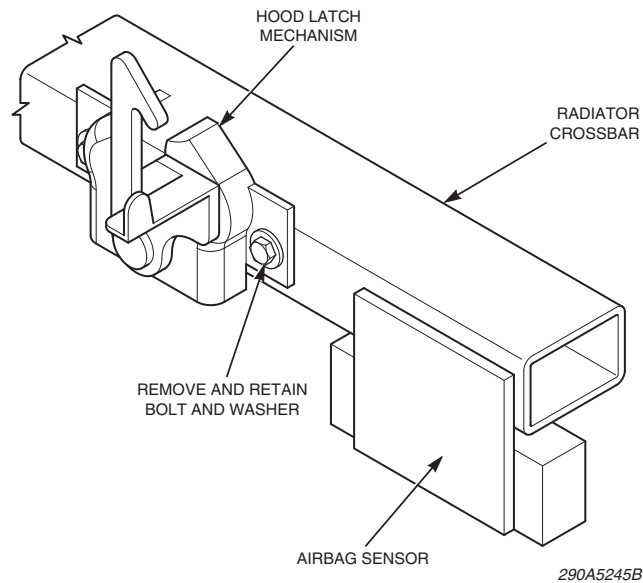

Figure 2: Hood latch mechanism and airbag sensor
- a. Remove and retain the bolt and washer on the driver side of the hood latch mechanism (*Figure 2*).